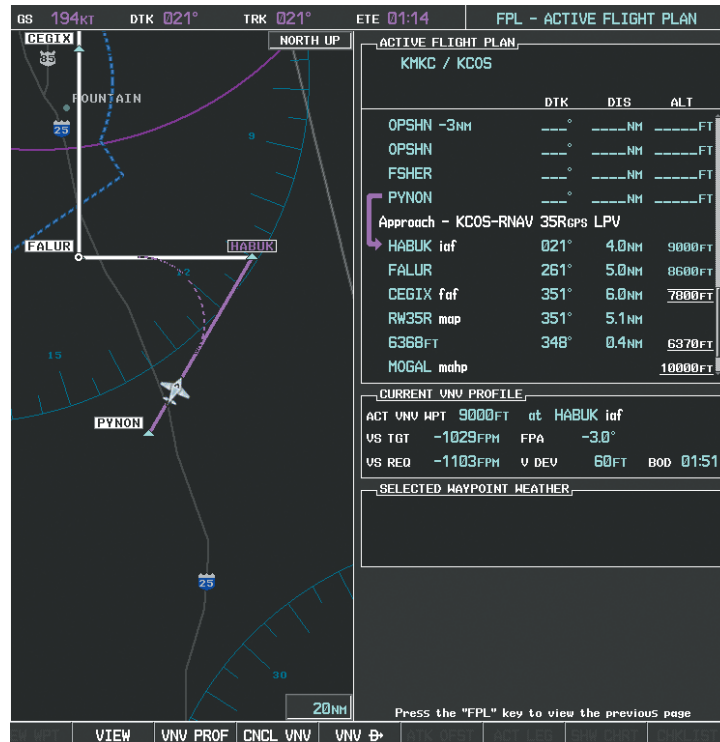

Figure 5-141 Approach is Now Active
- 21) Upon passing PYNON the approach procedure automatically becomes active. The approach may be activated at any point to proceed directly to the IAF. In this example, the aircraft has progressed through the final waypoint of the arrival and the flight plan has automatically sequenced to the IAF as the active leg, activating the approach procedure (see Figure 5-141).